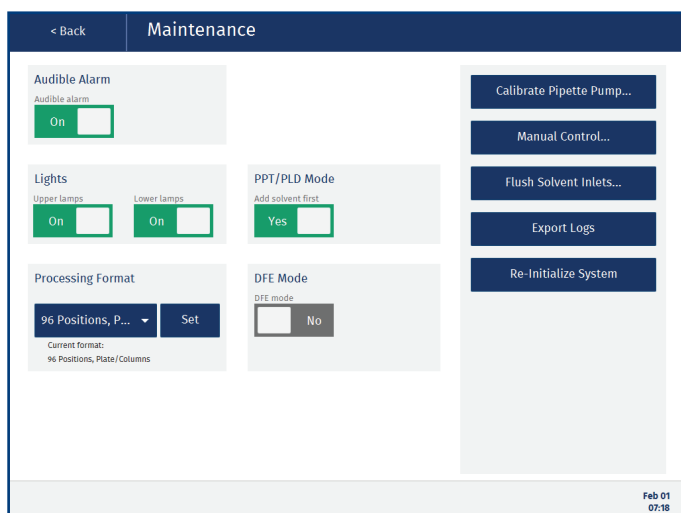

Figure 56. The Maintenance view.
5. Enable the **DFE mode** option; see Figure 56 on page 30.
4. Disable the **DFE mode** option; see Figure 56 on page 30.
The **Maintenance** view (see Figure 56) contains the system settings listed in the “Change the System Settings” section below and the following maintenance features:
In the **Maintenance** view, the following system settings are available (see Figure 56):